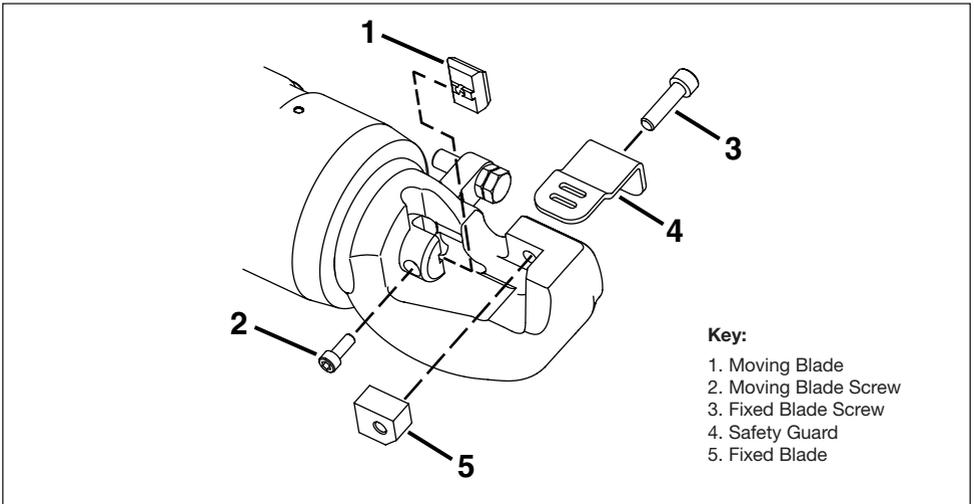

Figure 16, Fixed and Moving Blade Replacement
Replace the fixed blade as described in the following steps. Refer to Figure 16, items 3, 4 and 5.
Replace the moving blade as described in the following steps. Refer to Figure 16, items 1 and 2.